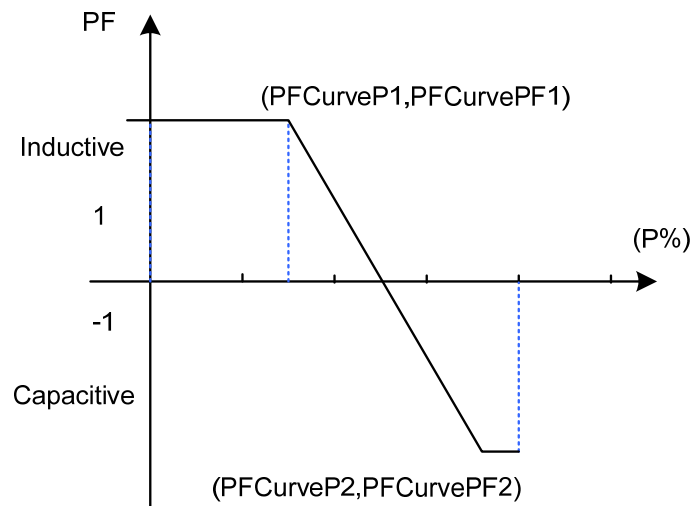

Figure 6-17 PF(P) Curve Mode
- PF(P) Curve: PF curve mode. Note: The power factor changes according to the power change, as shown in Figure 6-17.